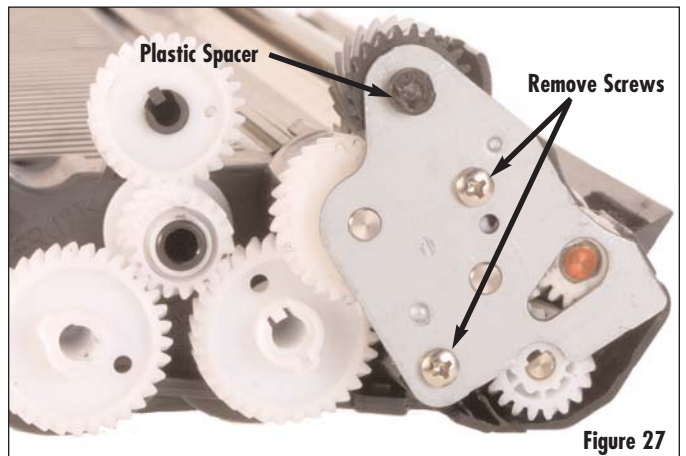

Figure 27
2. Remove the gear cover plate by removing the two screws securing it to the cartridge (Figure 27). Remove plastic spacer if present.